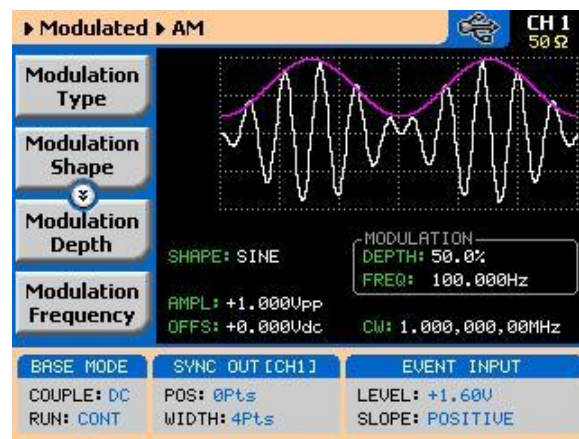

Figure 3-33: AM Menus
The AM function enables amplitude modulation of a carrier waveform (CW). The carrier waveform is modulated by an internal waveform, normally referred to as envelope waveform. The envelope waveform can be selected from sine, triangle square or ramp shapes. When AM is selected, the menus that are associated with AM become accessible. These are shown in *Figure 3-33*.